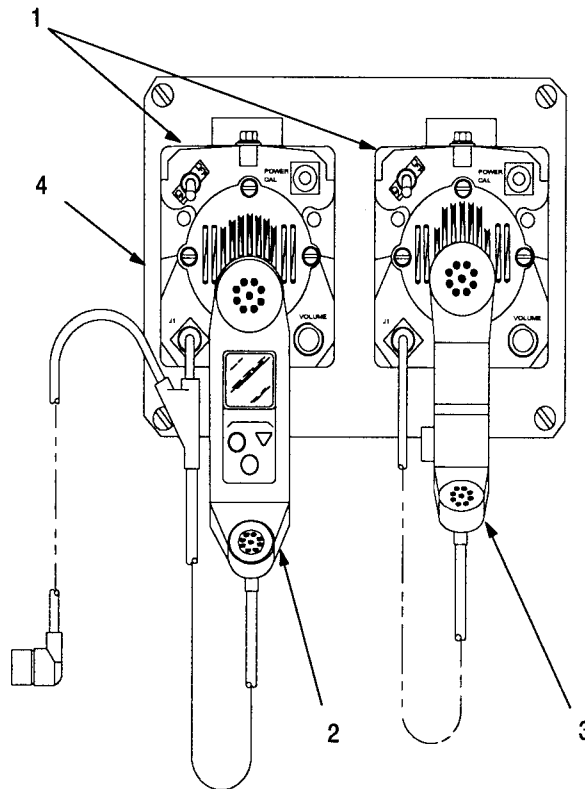

Figure 1-8. RRA
The CBPS Remote Radio Assembly (RRA) consists of two LS-671 loudspeakers (1, figure 1-8), one Handheld Remote Control Radio Device (HRCRD) (2) and one H-250 handset (3). These items are attached to a mounting plate (4) that can be relocated within the CBPS during mobile and static operating modes.